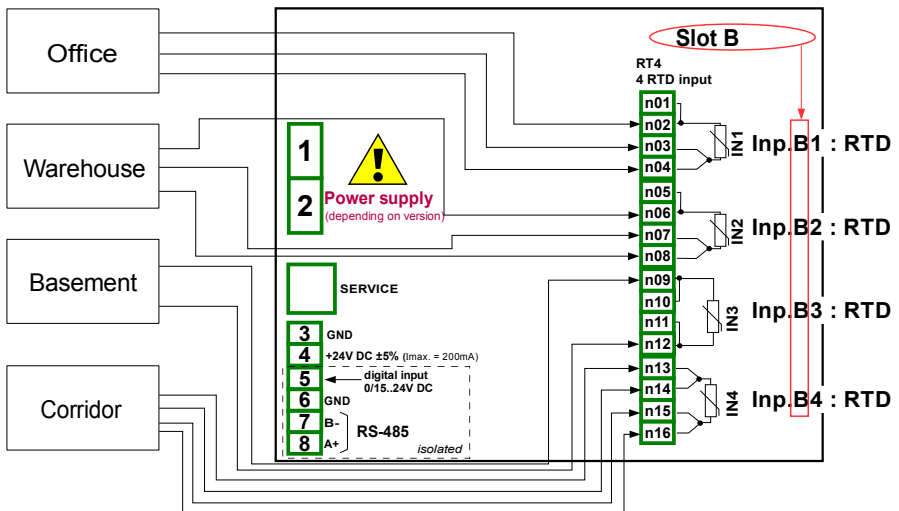

Fig. 7.65. Schematic diagram for the RT4 module
Before measuring temperature, user should configure the device, and then connect the sensors as shown in Fig. 7.65 (see Appendix 8.7. RT4 , RT6 – RTD MEASUREMENT MODULES).
- **Source** parameter set as **Inp. B1: RTD** (see the connection in Fig. 7.65),